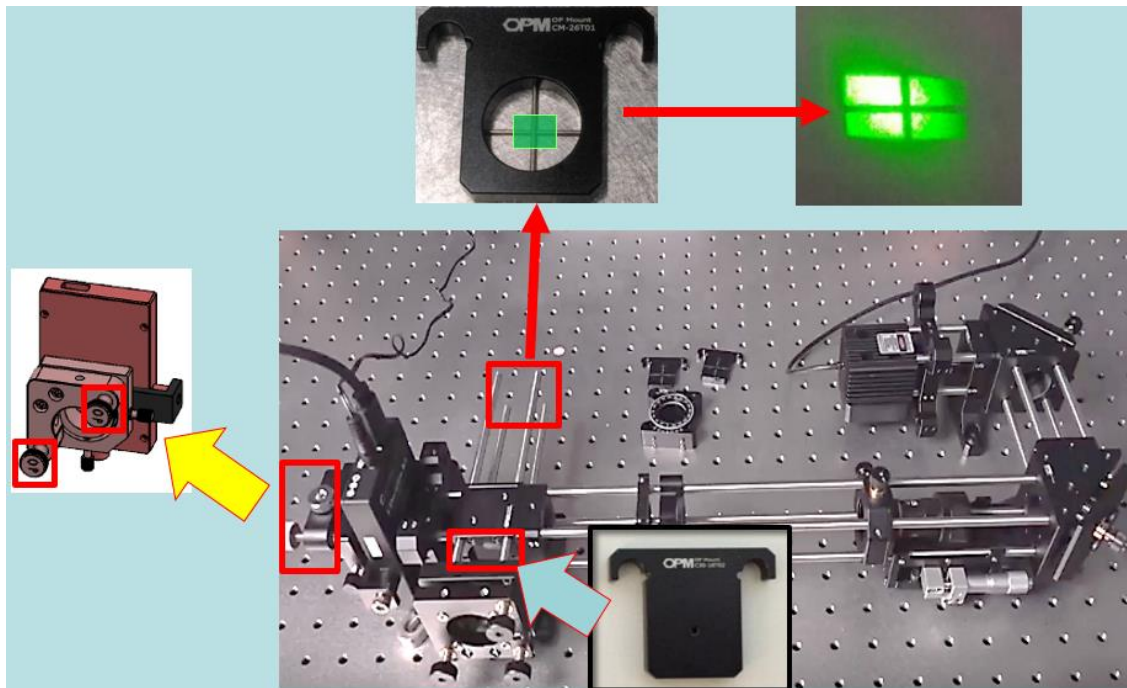

Figure 3
3. Adjust 2 screws behind SLM until the dark cross is in the center of the rectangle as shown in Figure 3.